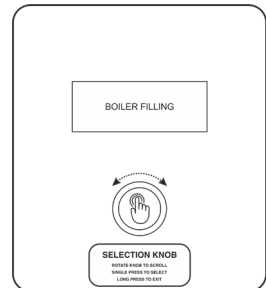

Fig. No. 19.3
• BOILER FILLING (Ref. Fig. No. 19.3)